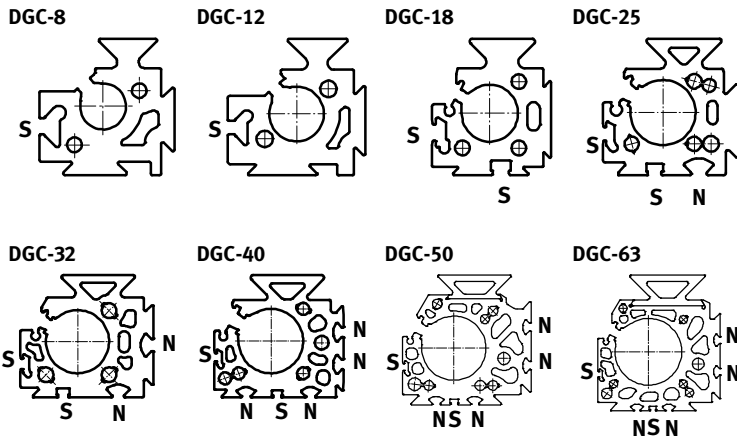

Fig. 16
- Use grooves (S) from Fig. 16 to mount the proximity sensors.
- Use the grooves as per Fig. 16 for fastening the accessories.